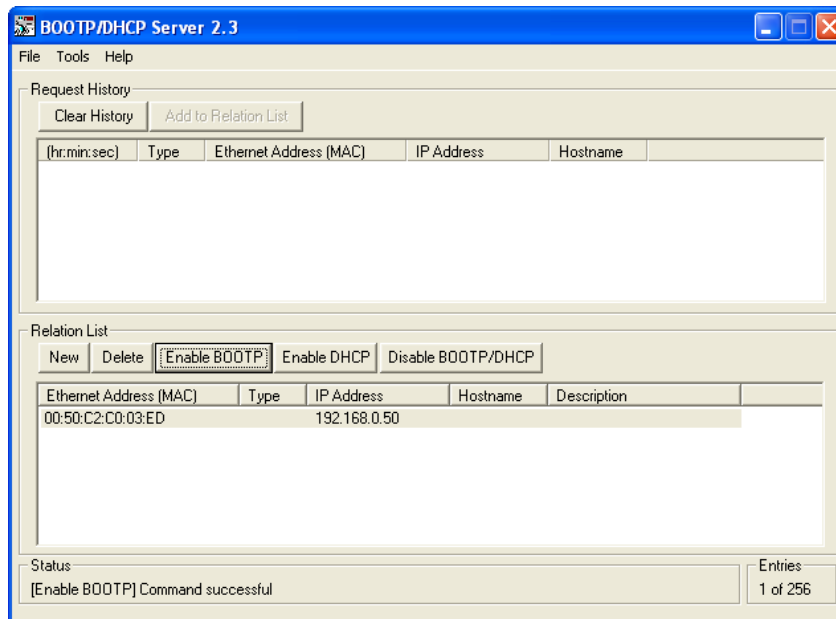

Figure A.2 Bootp Enabled
- 3) Click on your new entry in the "Relation List". This will activate the buttons in the pane. Click on the [Enable BOOTP] button. The message "[Enable BOOTP] Command successful" should appear instantly in the status line at the bottom of the window. Figure A.2 shows the state of the RA Bootp Server software at this point.